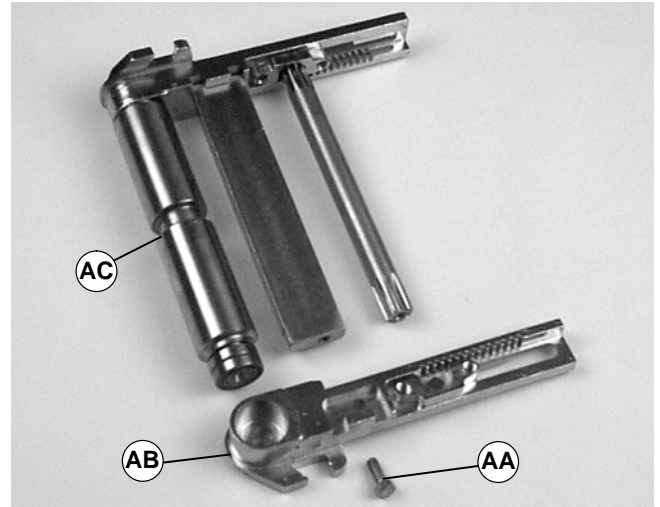

Figure 19
6. Remove fixed tension support screw (AA of Figure 19).